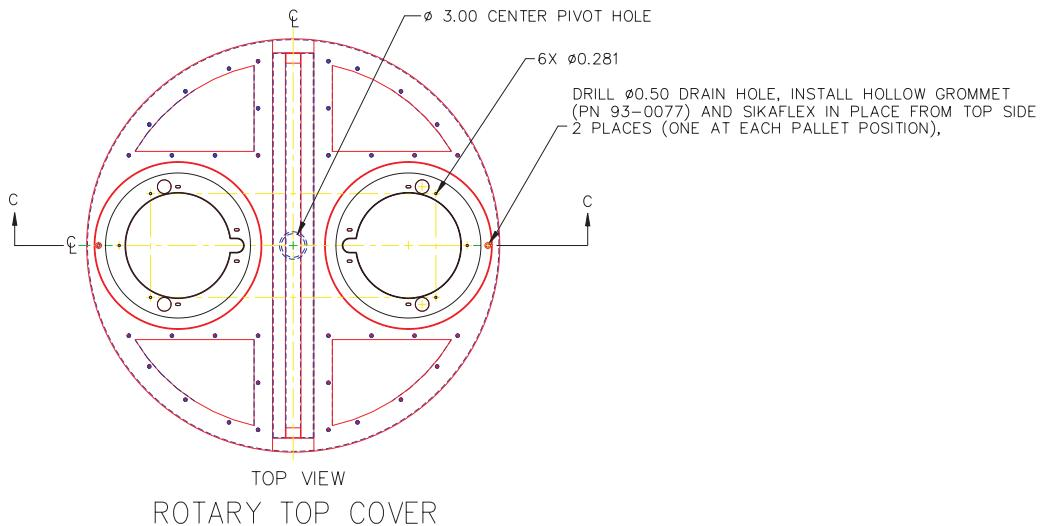

Figure 3.12-8 - Rotary Cover, Top View
4. Thoroughly clean and prepare the area surrounding the 3.00" dia. center pivot hole of the Rotary Top Cover from below. Prep using alcohol or similar agent. See Figure 3.12-8.
6. Place one Ring Dam HS-1RP, P/N 93-1098 onto one of the pallet locations on the Rotary Top Cover. Place the remaining Ring Dam onto the remaining pallet location. Line up all the existing perimeter holes and slots to ensure that the Ring Dams are centered over the openings. Using the Ring Dams as a guide, mark and match drill the three 0.281 dia. holes that do not yet exist in the Rotary Top Cover, as shown in Figure 3.12-8. Use a 9/32 (0.281) diameter drill bit and ensure the Ring Dams do not shift during drilling.
8. Drill a 1/2" diameter hole in the pallet location of the Rotary Top Cover as shown in Figure 3.12-8. Squeeze a bead of Sikaflex onto the hollow metal grommet (P/N 93-0077) and press into place from above. Repeat for the remaining pallet location.